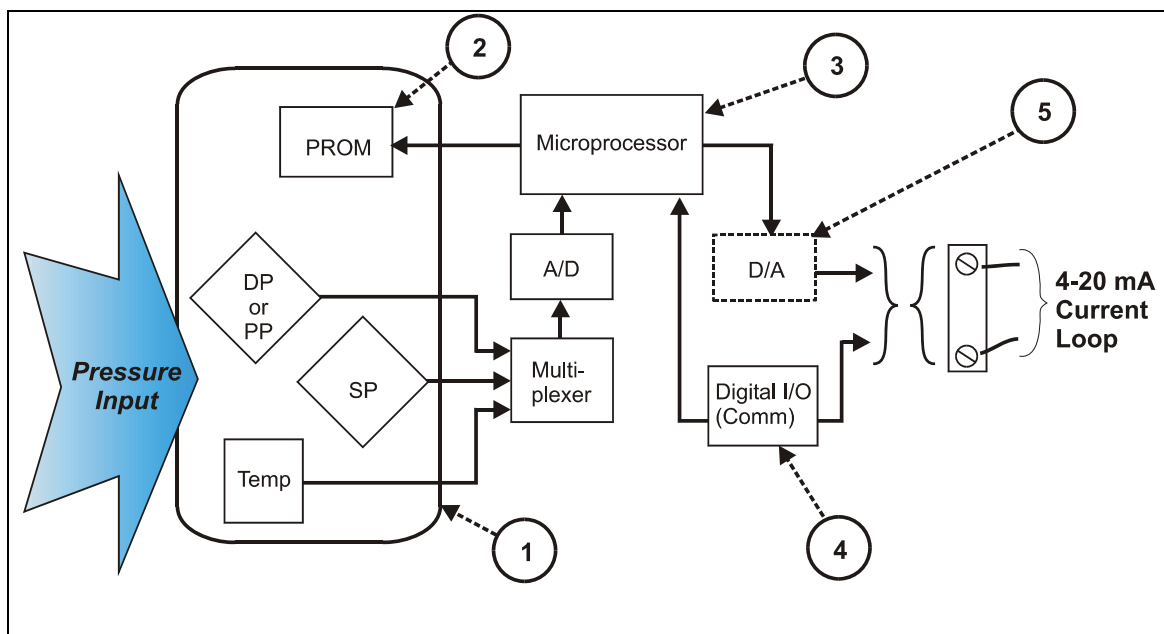
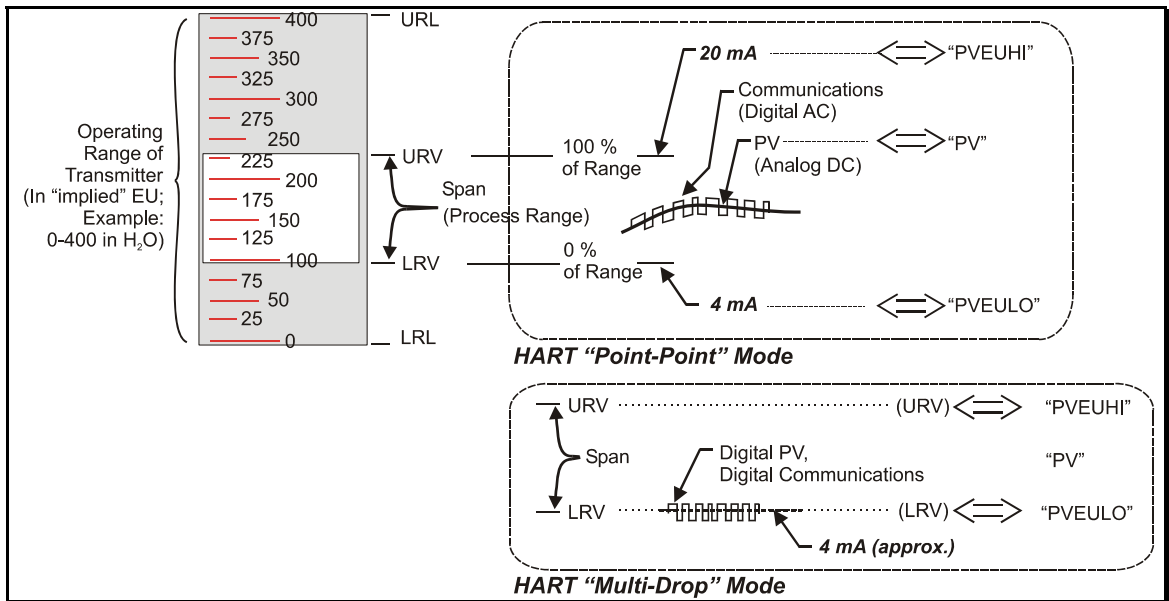

Figure 2-1 Honeywell ST 3000/ ST 800 Smart Transmitter - Analog mode
Figure 2-5 HART Point-point and Multi-Drop Value Scaling
The characteristics of a typical Honeywell Smart Pressure Transmitter (DE Protocol) are summarized in Figure 2-1 through Figure 2-5, following.
As indicated by key number (1) in Figure 2-1, the sensor is a sealed assembly that typically includes three separate sensors: Differential Pressure (DP), Static Pressure (SP) and Temperature (Temp).
The digital-to-analog converter (D/A) shown at key number (5) in Figure 2-1 is shown as a box with a dotted line to indicate that analog output mode is a user-selectable feature, for use in an application whose receiving equipment requires an analog input.
Note that the Digital I/O (Comm) (communications) box (4) is shown in Figure 2-1 with solid line to indicate that the digital communications path is available at all times, even when analog mode is selected.
As indicated in Figure 2-5, the output of the HART includes two primary modes: